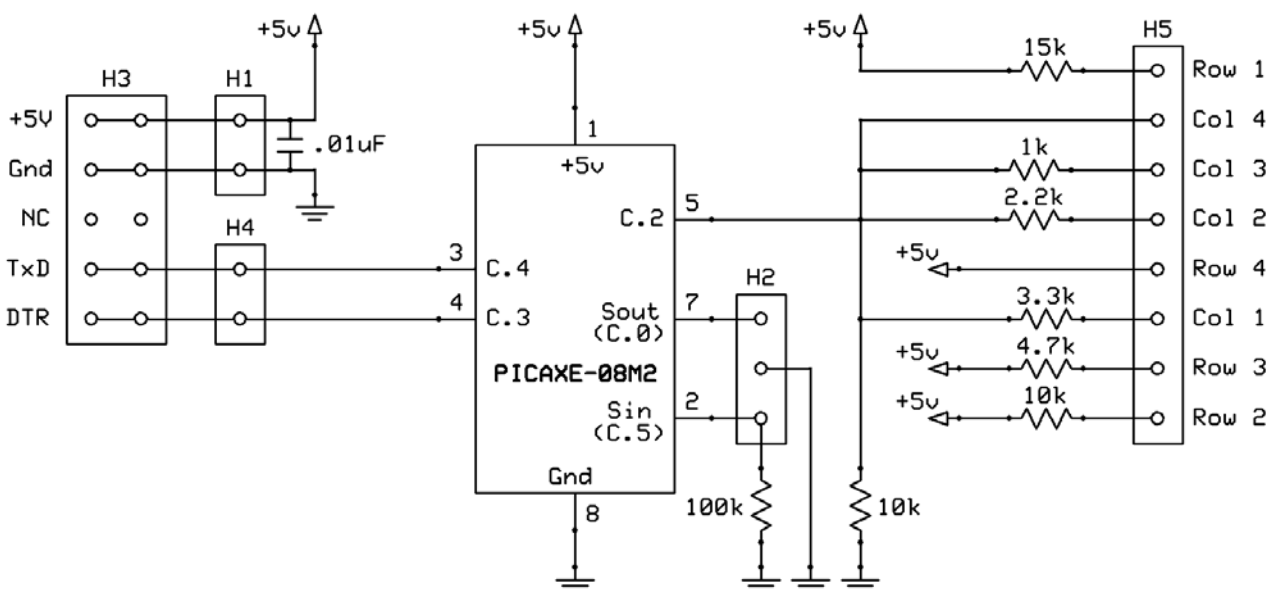
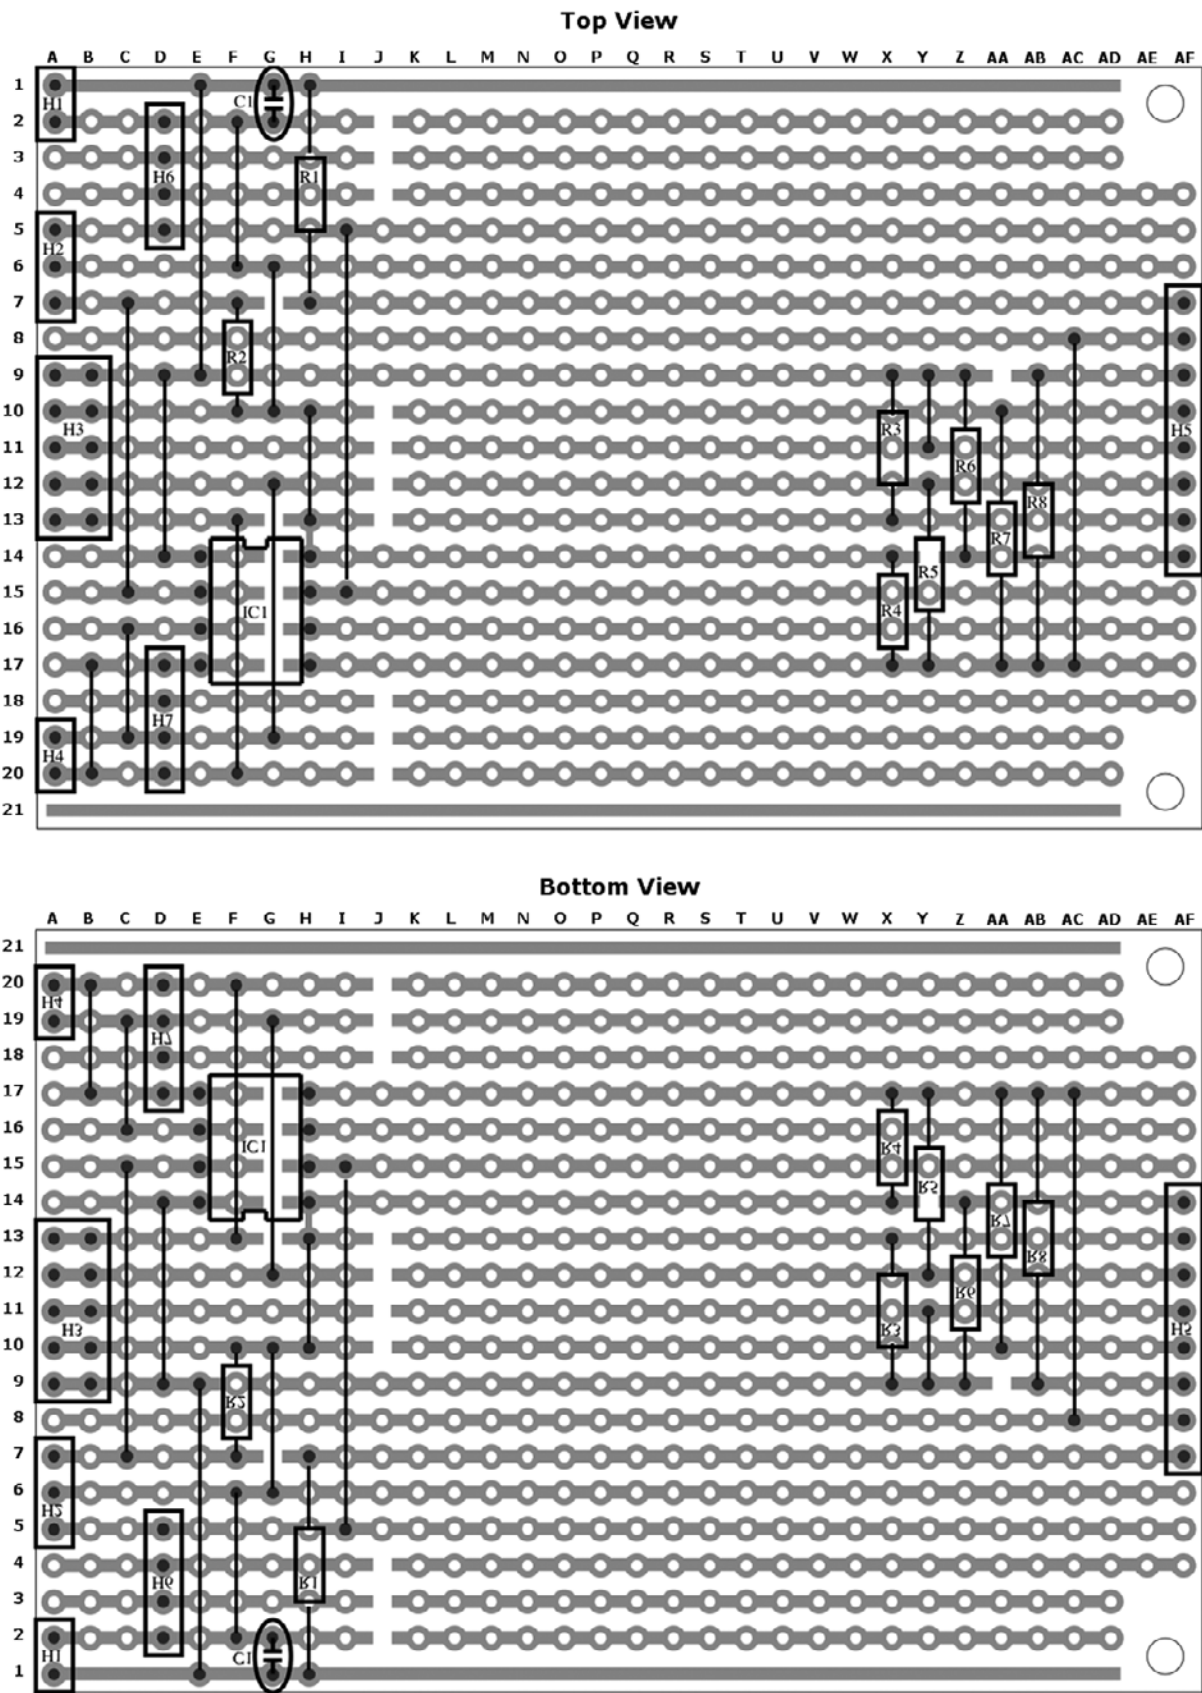
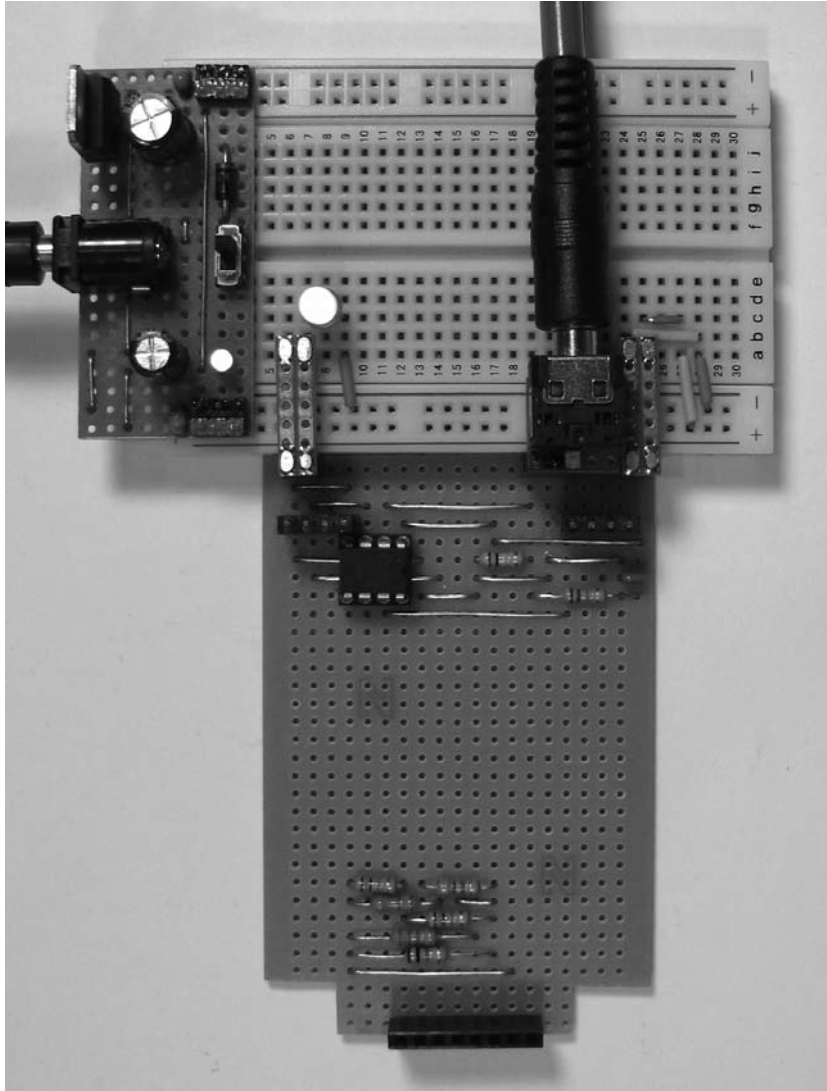

Figure 11-5 Schematic for serial keypad project
Figure 11-6 Stripboard layout for serial keypad project
Figure 11-8 Keypad breadboard setup for Test 2
In addition to decoding the keypresses, our stand-alone peripheral keypad needs to be able to transmit the input characters to a master processor. To accomplish this goal, we're going to use the same approach we implemented with our IR TV remote device in Chapter 8. We'll talk more about that after we have constructed and tested the stripboard circuit. The schematic for our project is shown in Figure 11-5, and the stripboard layout is presented in Figure 11-6.
The schematic in Figure 11-5 is similar to that of the breadboard circuit we just discussed, with the addition of five headers that serve the following functions:
With the exception of H5, all the headers are optional. Because the driver software for the project is fairly simple, when you have the keypad functioning correctly, you may have little or no need to reprogram the 08M2, so you certainly could omit H2. Even if you did decide to reprogram the driver, you could easily remove the 08M2 from the stripboard and reprogram it in a breadboard circuit. The remaining three headers (H1, H2, and H4) provide two different methods of connecting the peripheral keypad to a project—if you construct the project for a specific purpose, you could leave off the header(s) that aren't needed. However, for maximum flexibility, you may want to include all the headers in the first version of the project that you construct. Finally, in the layout shown in Figure 11-6, you can see two additional headers (H6 and H7) that are not included in the schematic. They have no electrical function, but when male headers (with their short ends snipped) are inserted into them, they will support the keypad so that it sits parallel to the stripboard when the project is completed.
In Figure 11-6, you can see that I am using the small stripboard for the layout, which is why the top and bottom traces contain no holes. If that’s what you use, you will need to drill four holes at the appropriate positions in the top trace. If you would rather avoid that chore, you could cut the
3. Sever the traces on the bottom of the board at the 18 holes indicated in Figure 11-6.
(making sure it's oriented correctly) and connect a USB-PA3 adapter to H2. (The USB-PA3 serout pin should be inserted into the header pin closest to H1.) Also, connect an LED from the keypad's "TxD" pin to Ground on the breadboard, as shown in Figure 11-8. (Refer back to Figure 11-5 for the location of the "TxD" pin on header H4.) Power the breadboard and download a simple "Hello World" program that has an LED declared on output C.4. If the LED lights, everything is fine; if not, you will need to troubleshoot the wiring on the keypad board and the connections to the breadboard.